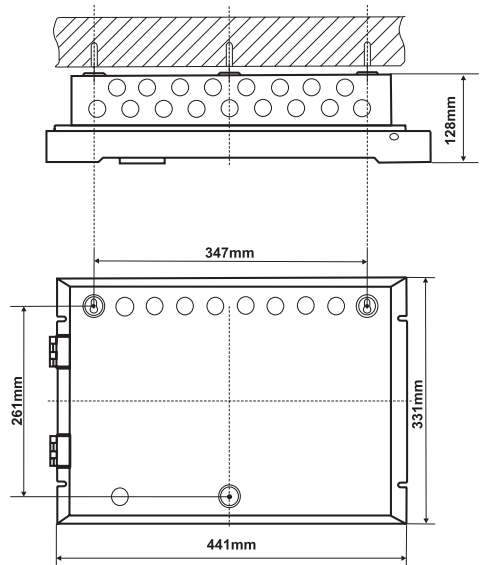

Figure 5.
- Drill $\text{Ø}6\text{-}8\text{mm}$ diameter openings in the wall and fix the box using the provided anchors and screws (Positions 2 and 4, page 31) - Figure 5.